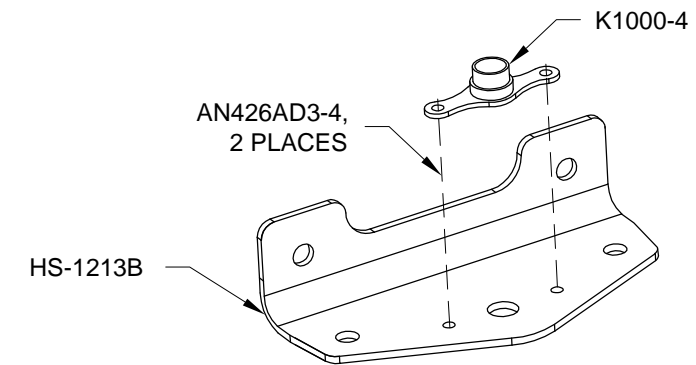

FIGURE 2:
Step 7: Rivet a nutplate to both of the HS-1213B Outbd Hinge Brackets using hardware called out in Figure 2.